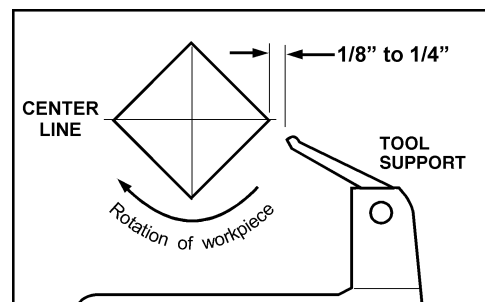

FIGURE 5
The tool support (shown in Figure 5), is designed to allow adjustment for height, position on the bed, and angle to the work. Your 3520A lathe comes standard with the 14" tool support. Other supports are available; consult the "Optional Equipment" list on page 24.
3. Move tool support into position. It should be parallel to the workpiece, just below the centerline and approximately 1/8" to 1/4" from the corners of the workpiece to be turned, as in Figure 5. Lock tool support to bed.